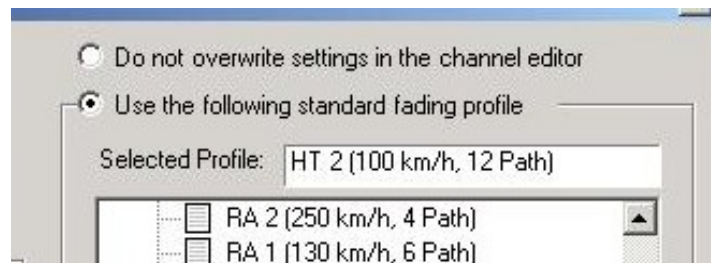

Figure 1-14: Test Assistant Window – Profile Selection Option
8. Select **Use the following standard fading profile** shown in Figure 1-14.